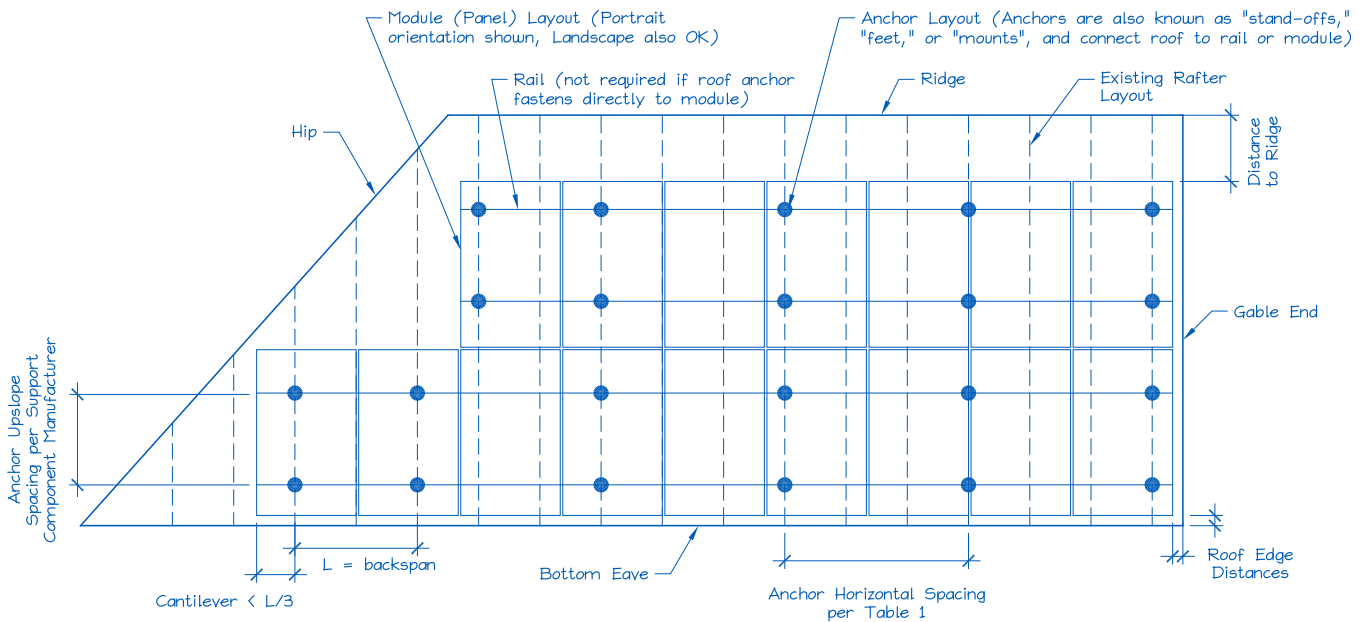

Figure 2. Sample Solar Panel Array and Anchor Layout Diagram (Roof Plan).
E. Is a roof plan of the module and anchor layout attached? (see Figure 2)
- 1) Proposed anchor horizontal spacing (see Figure 2): _____' - _____"ft-in
1. Anchors are also known as “stand-offs”, “feet”, “mounts” or “points of attachment”. Horizontal anchor spacing is also known as “cross-slope” or “east-west” anchor spacing (see Figure 2).